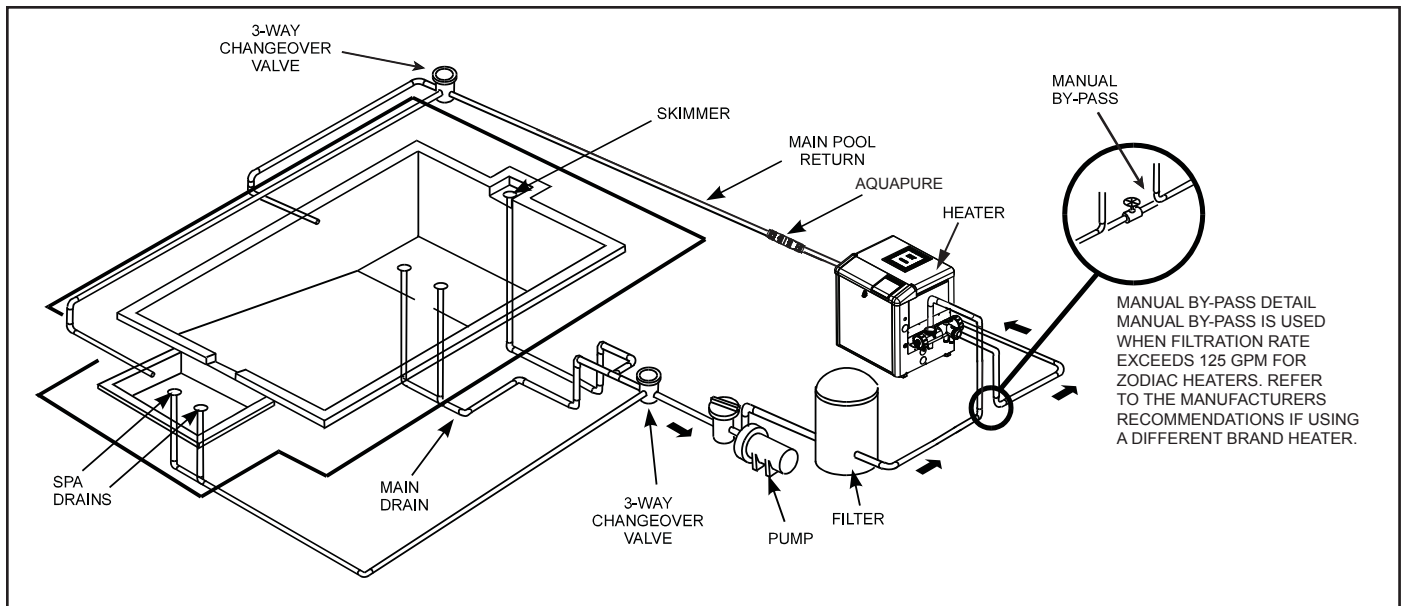

Figure 2. Typical Piping Installation
1. Zodiac® recommends installing the pump within one (1) foot above water level. Refer to Figure 2 for a typical installation. The pump should not be elevated more than three (3) feet above or below the water level of the pool.
3. The ePump + SVRS must be connected to at least two (2) hydraulically-balanced suction outlets (suction outlets) for each pool pump suction line. Refer to Figure 2. Each drain must be provided with covers that are listed or certified to the latest published edition of ANSI®/ASME® A112.19.8 or its successor standard, ANSI/APSP-16. The suction outlets of the suction outlets must be at least three (3) feet apart or at different planes. The suction outlets can be a drain and skimmer, two (2) drains, two (2) skimmers, or a skimmer with an equalizer line installed. For additional details and guidelines, refer to ANSI/APSP 7, the standard for Suction Entrapment Avoidance in Swimming Pools, Wading Pools, Spas, Hot Tubs, and Catch Basins. Check the local codes for proper installation requirements. Applicable local codes will take precedence over other codes.